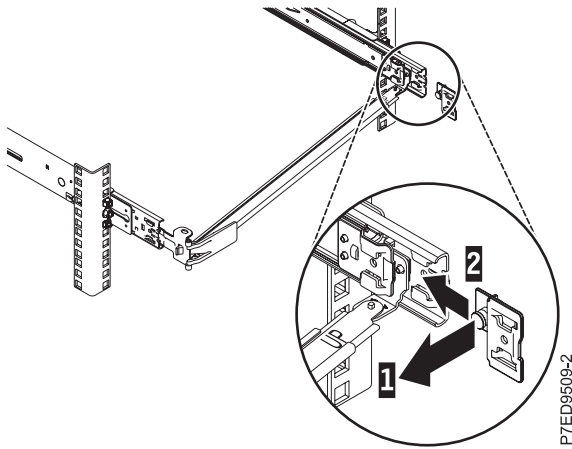

Figure 15. Extending the mounting bracket pin and installing the mounting bracket into the slide rail
4. Pull out the mounting bracket pin (1) and slide the mounting bracket (2) into the right slide rail. Push the bracket into the slide rail until the spring-loaded pin snaps into place, as shown in Figure 15 on page 12.